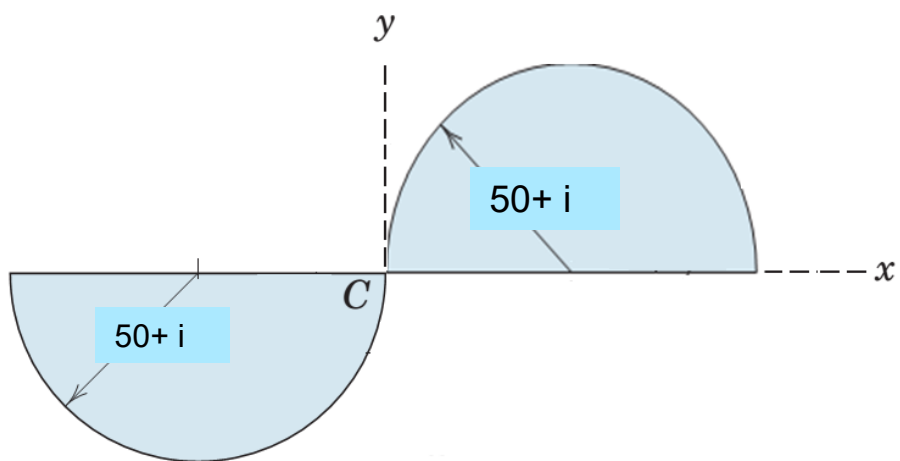

Fig. 6
6. Determine the Moment of Inertia, I_x , I_y and I_{xy} for the composite of the two semicircular areas shown in Fig. 6 about the centroidal axes through C. [All dimensions are in mm].